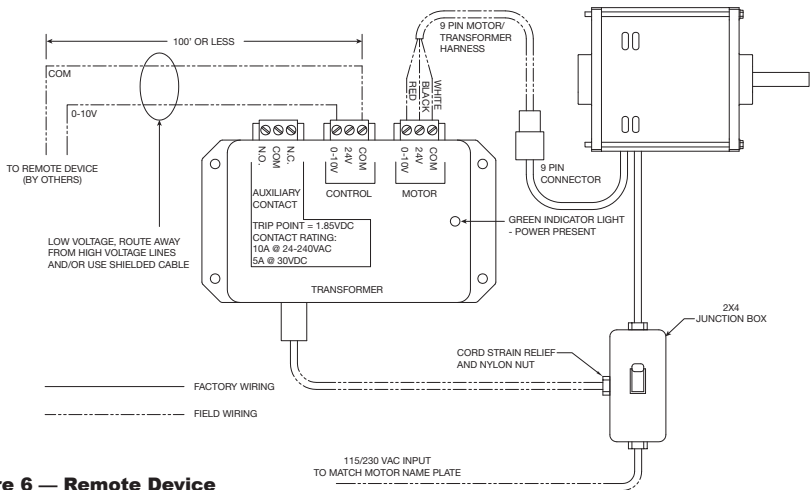

Figure 6 — Remote Device
7. If using a third party controller instead of the remote speed control provided, refer to Figure 6 wiring details.